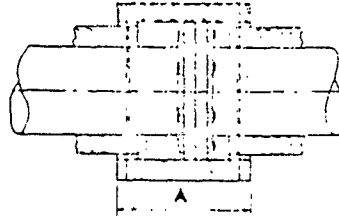

FIGURE 12
7.4 Line flanges shall be insulated with block or pipe insulation equal in thickness to the adjacent pipe covering or 2 inches, whichever is less. The length to be in accordance with Figure 12 and Table 2.